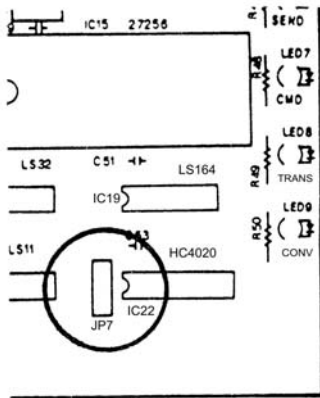
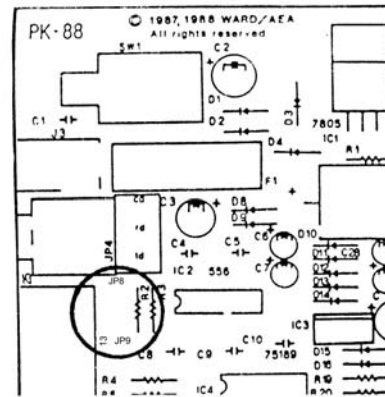

Figure 1
Figure 2
1. To allow the PK-88 to work with this program in the split screen mode, a simple modification must be done to the circuit board. To do this, simply short one end of R5 to one end of R7. Use the end of the resistors that are closest to the outside edge of the board (see Figure 1, page 6 of this section).
1. To allow the PK-88 to work with this program in the split screen mode, a simple modification must be done to the circuit board. To do this, simply short one end of R5 to one end of R7. Use the end of the resistors that are closest to the outside edge of the board (see Figure 1 below).
The modification is done in three steps. First, move JP-7 to position B. This jumper is located in the front left corner of the circuit board, between IC21 and IC22 (Figure 1, below). Position B means that the small plug is on the center pin and the pin closest to the outside edge of the PCB. Secondly, solderjump the two halves of JP-8 together, and do the same for JP-9. These are actually lands on the circuit board, and they are located near the serial port (Figure 2, below). Finally, touch a well-grounded metal object in your shack to discharge any static you may have built up in your fingers, and, using a small flatbladed screwdriver, gingerly remove the firmware chip (IC15) from its socket, being careful not to pry the socket from the board itself. once this is done, simply install the NET/ROM chip into the empty socket, making sure the notch on the EPROM points towards the rear of the PK-88.
Your PK-88 has a lithium battery installed onto the printed circuit board just behind the heatsink, at the BT-1 location (see Figure 1, below). This battery replaces the two AA batteries used in earlier PK-88's. To electrically remove the battery from the PK-88 circuitry, leave JP-6 disconnected. If you wish to install the battery into the circuit, place the jumper over both pins of JP-6. Your PK-88 has been shipped to you with the battery disconnected from the circuit. In general, if you are using AEA's IBM program PC-Pakratt with FAX, you will want to leave the battery out of the circuit. With COM-Pakratt, MacRATT, or any other terminal program, you will want to install the jumper over both pins of JP-6.